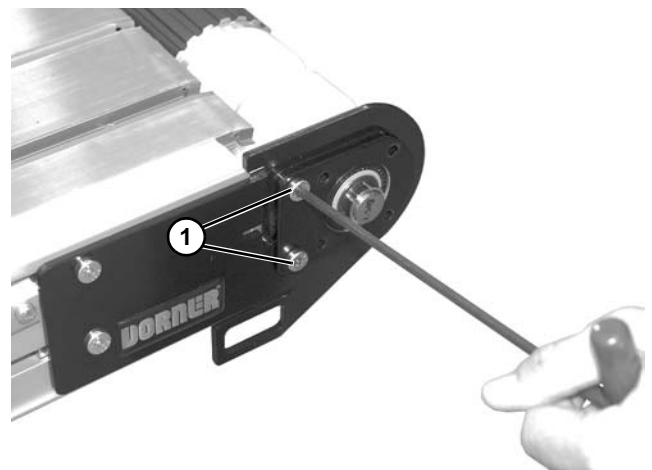

Figure 39
4. On the outer headplate assembly, remove two (2) screws (**Figure 39, item 1**).
6. On the drive headplate, remove two (2) screws (**Figure 39, item 2**).